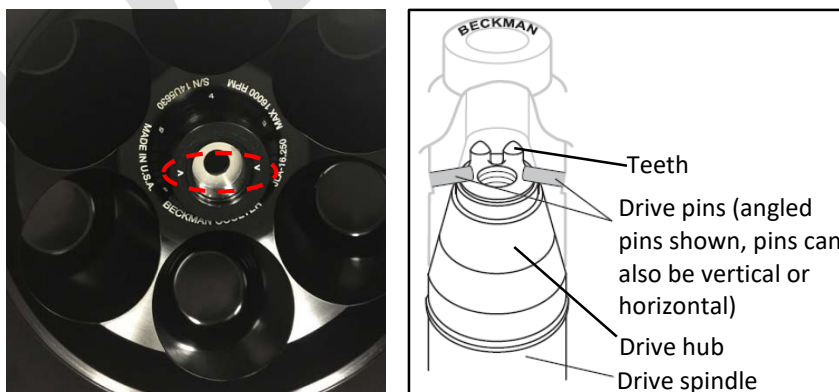

Fig. 9 Drive pins orientation
5.5.3 Turn the rotor until the BECKMAN COULTER name or 2 v-shaped indicator marks are horizontal to the drive hub teeth. Alternately, rotate the drive spindle to align the drive hub teeth with the drive pins (fig.9).
- **Before each run, make sure the rotor is seated on the centrifuge drive hub, with the rotor drive pins alongside the teeth on the top surface of the hub (fig.9), and that the lid knob is tight.**